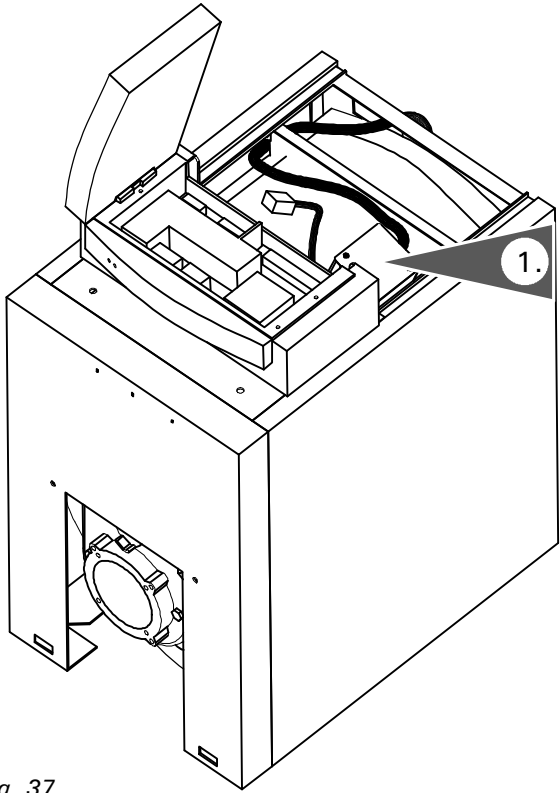

Fig. 37
1. Pump junction box must be placed underneath top panel near the back of the boiler. See Fig. 37.